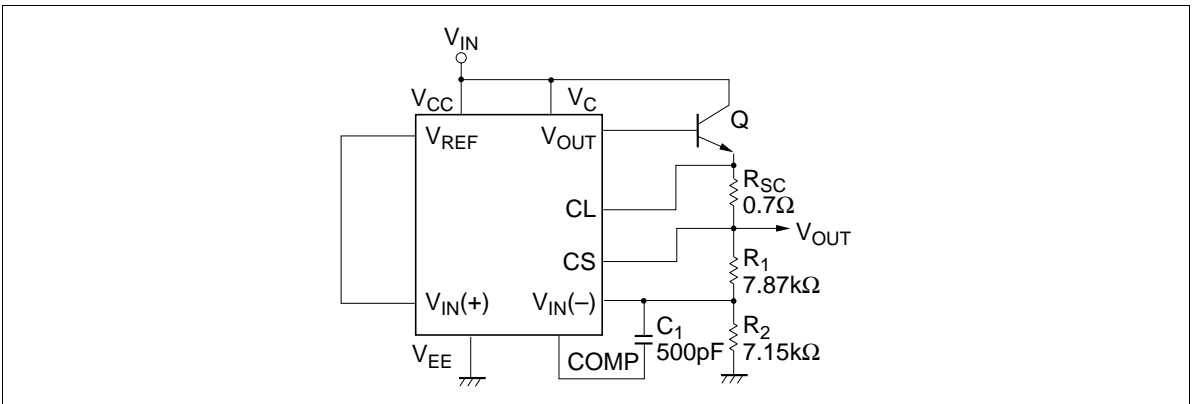

Figure 4 Increasing Output Current (1)
**How to Increase the Output Current:** To increase the output current, you must increase the current capacity of the control circuit. Figures 4 and 5 show examples with external transistors.